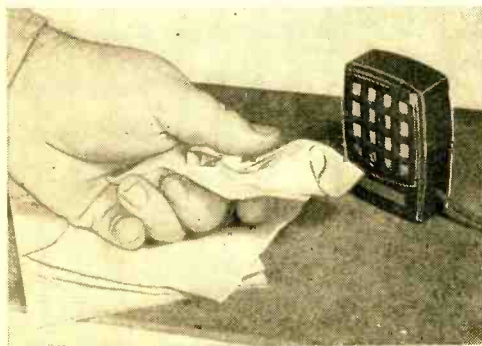

Fig. 6. Wrinkling paper sounds like fire.
**Fire:** You can simulate almost every type of "fire sound," from the friendly crackle of an open fireplace to the angry roar of a forest fire, simply by crushing and wrinkling paper close to the microphone, as shown in Fig. 6. Use different types of paper for different effects—cellophane, tracing paper, writing paper, newspaper, and heavy wrapping paper. Vary the distance between the paper and the microphone to change the intensity of the "fire."